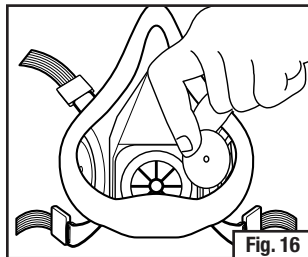

Fig. 16
1. Remove the inhalation valves from the half or full facepiece and store them so they remain flat (Figs. 16 and 17).